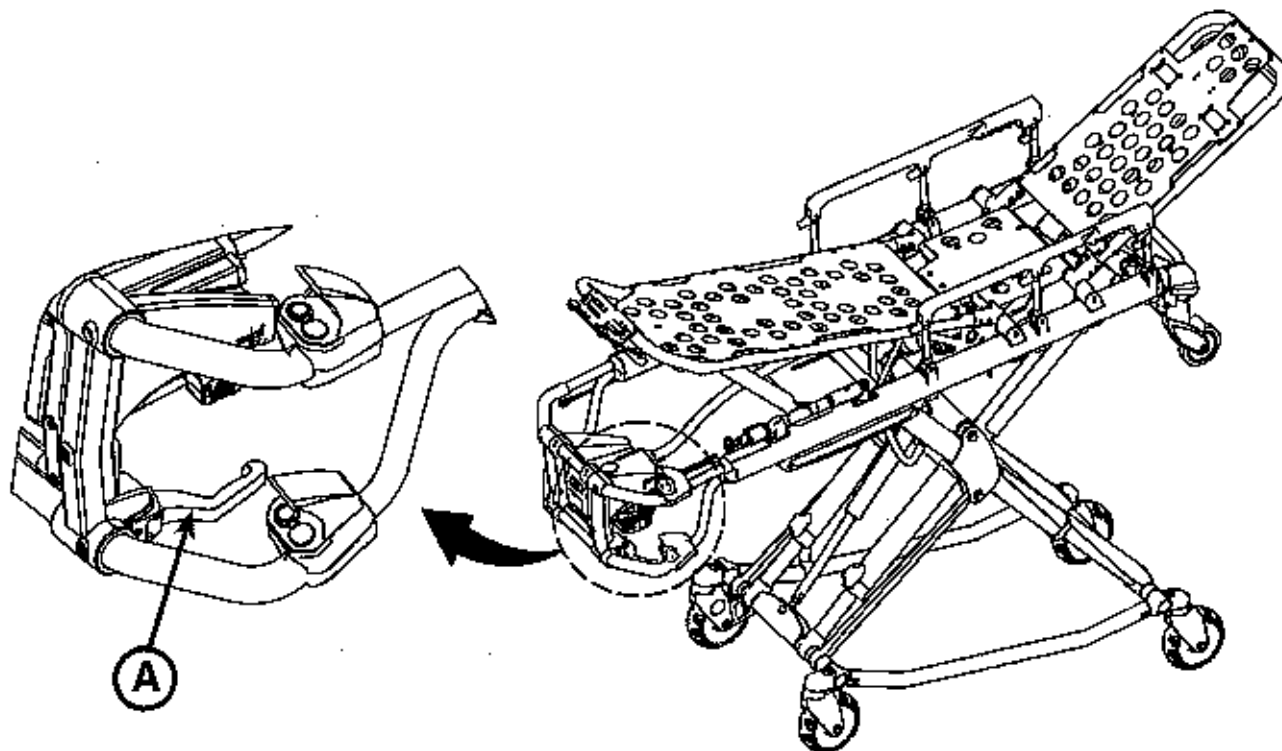

Figure 38
The red manual back-up release handle (A) is located along the patient left side of the lower lift bar at the foot end of the cot as shown in Figure 38.